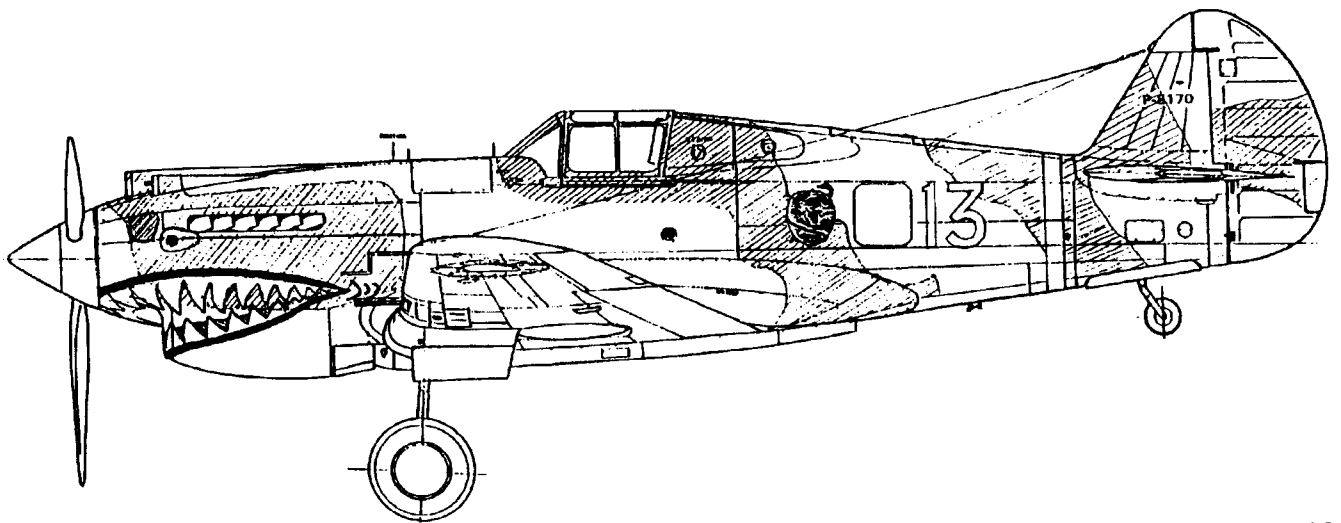

Figure 6
**Figure 6. Hawk 81-A2 number 13 (serial P-8170), January-February, 1942:** This plane was assigned to Robert Little of the First Squadron. The First Squadron fuselage band color was specified as white, but on this machine, and a few others, it appears to have been either "toned down" in some fashion or painted a pale gray (or even the light green used for the apple). All numerals were white, as was the small pilot inscription in front of the cockpit. The small nose numbers were retained for a while after the shark teeth were added, but they were painted out with dark green paint some time in January or February, 1942. The AVG shark teeth were painted in the common black, white and red colors, with the underlying camouflage showing through inside the mouth. Note the three white "dimples" at the rear of the mouth. The pupil of the eye was tan or pink. The first squadron "apple" insignia was light green, with a black snake outlined in white, and white stick figures and lettering. Wheel covers were Dark Earth.